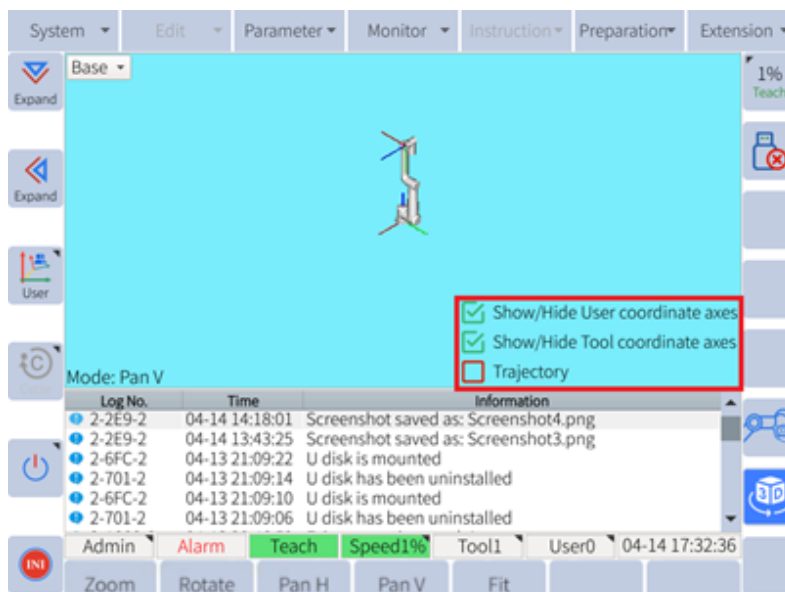

Figure 6-24: Options
2.2.2 Options are displayed as shown in Figure 6-24: